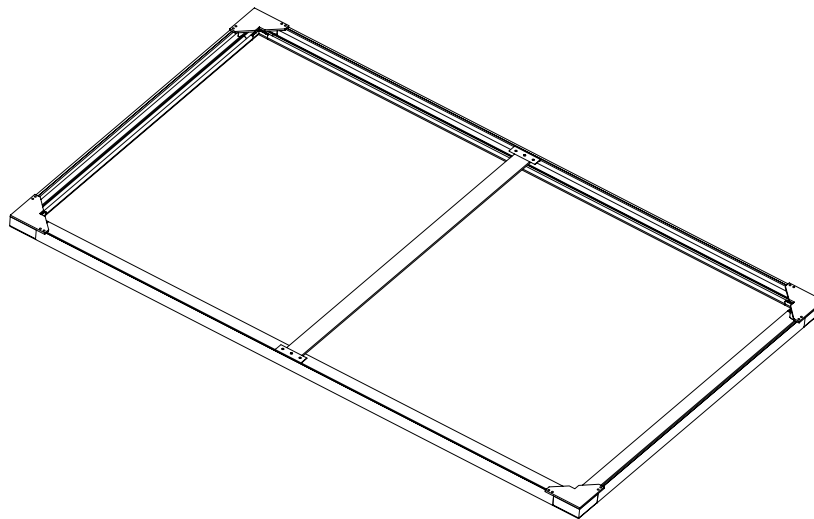
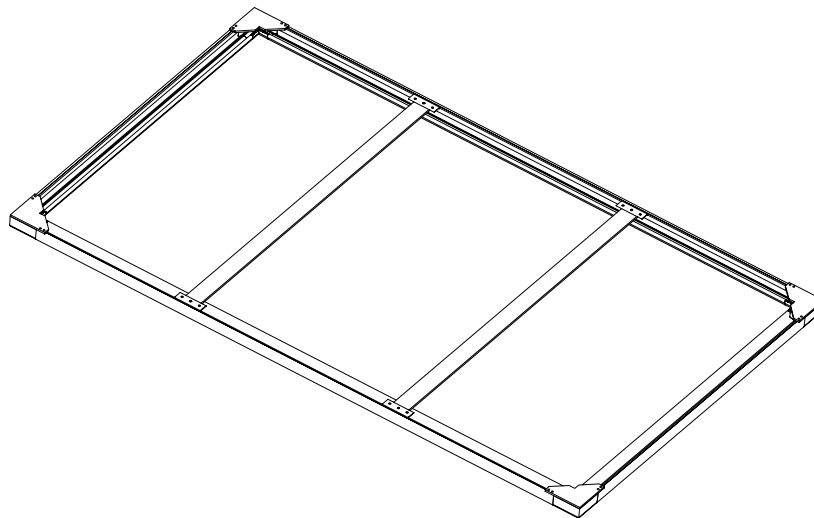

Figure 2
Figure 3
- ② For large Clarions, one or two vertical braces may be required. For a single vertical brace, center brace on back of screen frame (see Fig. 2). For two braces, place each brace approximately one-third of the way in from the sides of the frame (see Fig. 3).